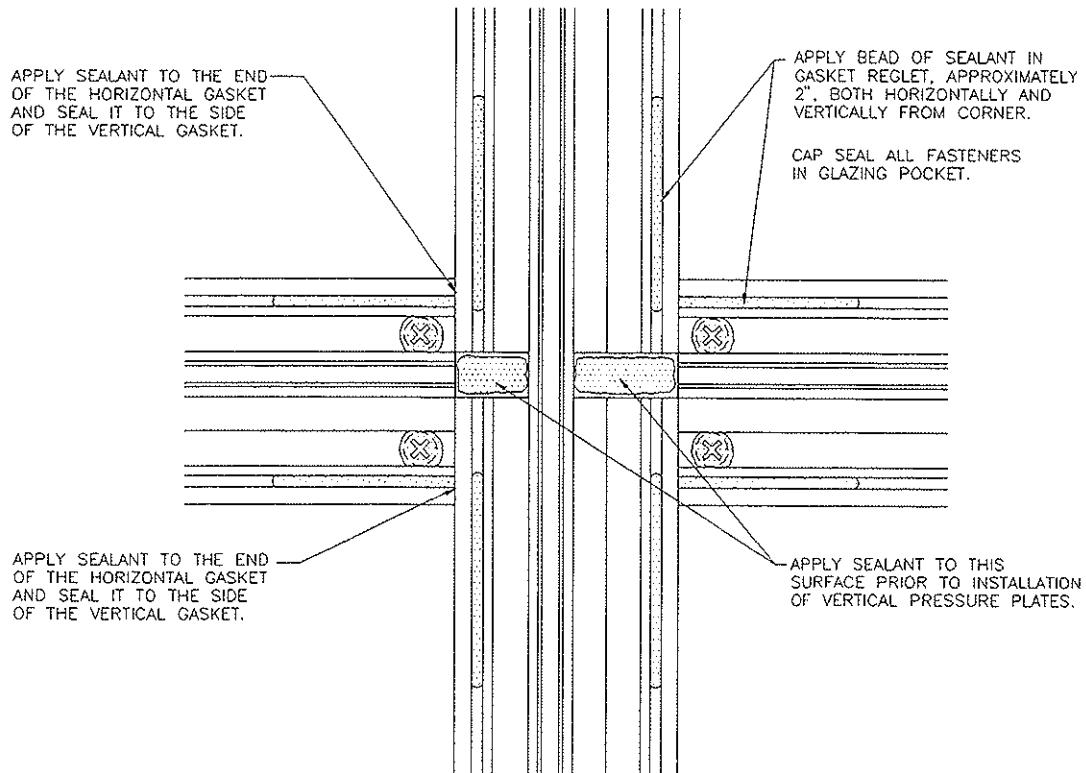

FIGURE 34
7. Attach horizontal to shear block with (1) or (2) S-270 or S-206 screws as required.
8. Cap seal heads of all screws used in glazing pockets. See figure 34.
See figure 34